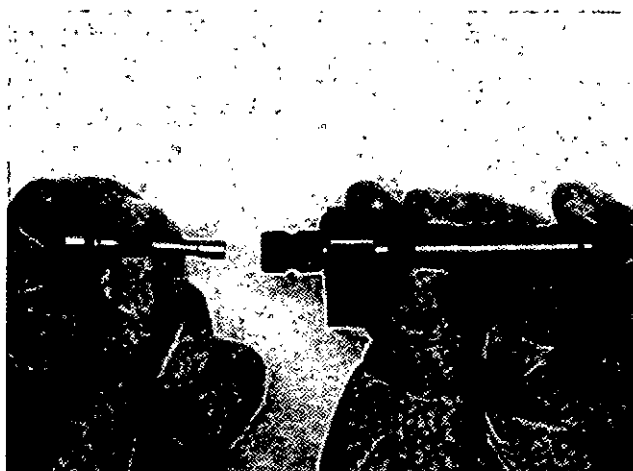

Fig. 8-8, (F5307). Install the fuel adjustment screw in the throttle shaft.
2. Insert the fuel adjustment screw into the throttle shaft about six rotations. Make sure the fuel hole in the throttle shaft is open, Fig. 8-8.